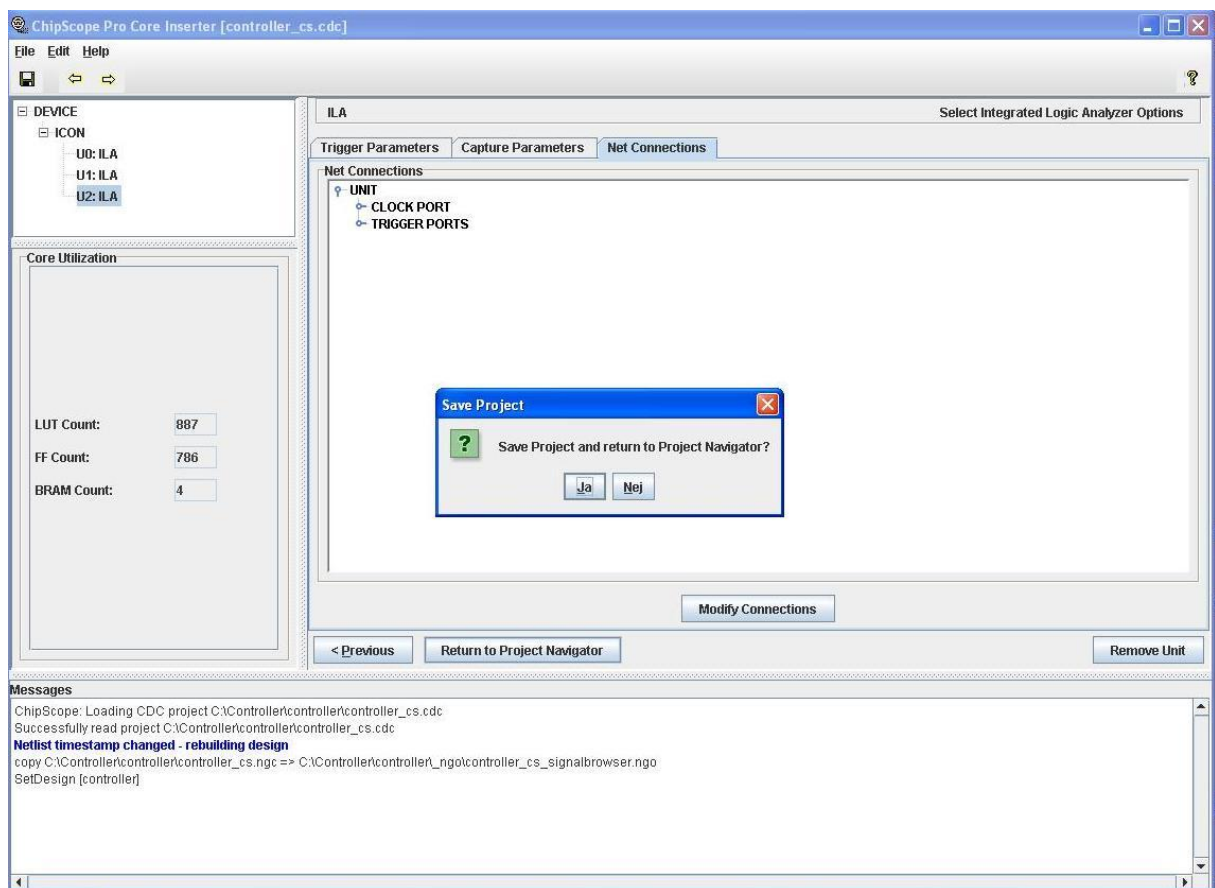

Fig 3.14: Returning to Project Navigator
11. Click on **Ja** to save the project as shown in Fig 3.14.